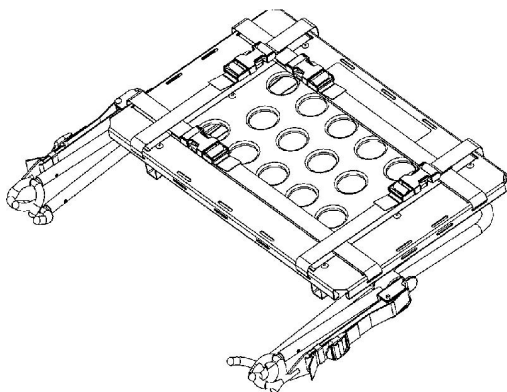

Figure 16 – Stored position
1. Place the defibrillator platform in the stored position (Figure 16).